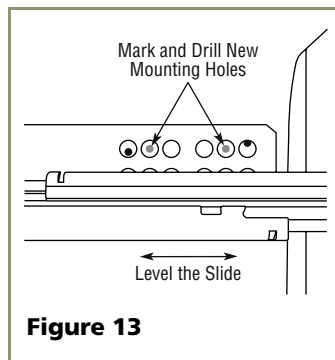

Figure 13
4. Mark new front drilling holes using a different set of mounting holes on the slide. See **Figure 13**.